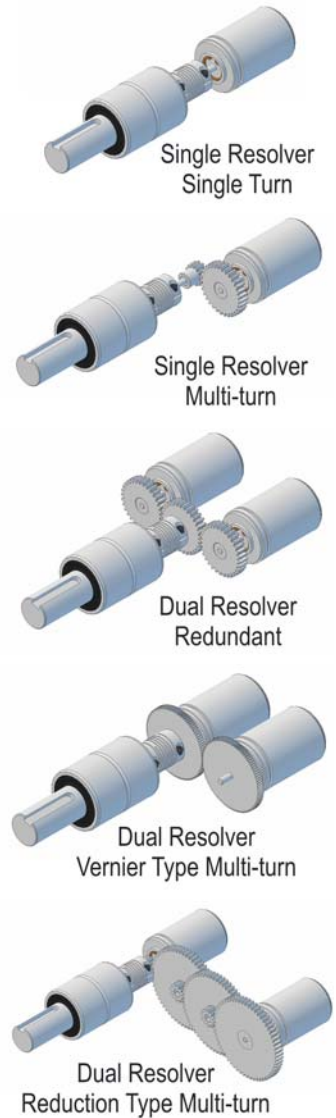

Figure R1.1 Resolver Transducer Types
- **Dual Resolver Transducers** - This type of transducer has two resolvers in the transducer package that are geared in such a way that the transducer yields a high resolution absolute position over multiple turns. As shown in figure R1.1 to the right, there are two types of dual resolver multi-turn transducers. One type uses a vernier gearing, where the two gears differ by one tooth. Examples of this type of transducer are the HTT-20-100, HTT-20-180, HTT-20-1000 and HTT-20-1800 transducers from AMCI. The second type uses a gear reduction between the fine and coarse gear so that the coarse gear completes one rotation for multiple turns of the fine resolver.